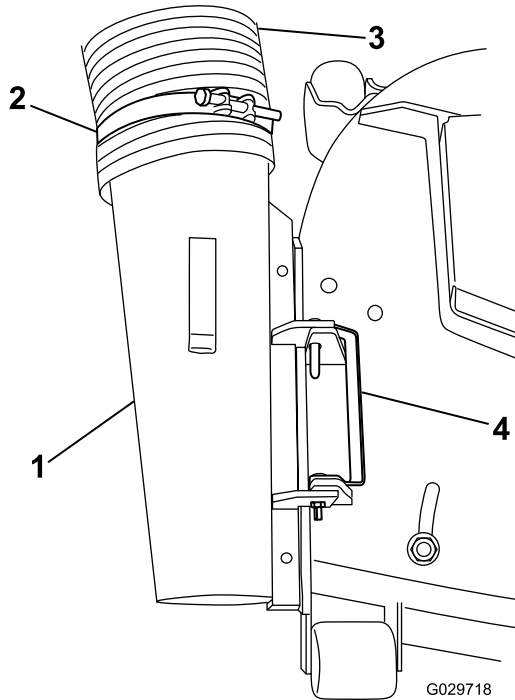

Figure 13
3. Install the deck adapter over the opening in the mower, securing it with the pin assembly and nut as shown in Figure 13.
4. Slide a large hose clamp over each end of the grass-chute hose (Figure 13).
5. Slide 1 end of the hose over the port on the end of the deck adapter and tighten the hose clamp to secure it (Figure 13).
3. Remove the nut and pin assembly securing the deck adapter to the mower and remove the adapter (Figure 13); install the original, rubber discharge chute.